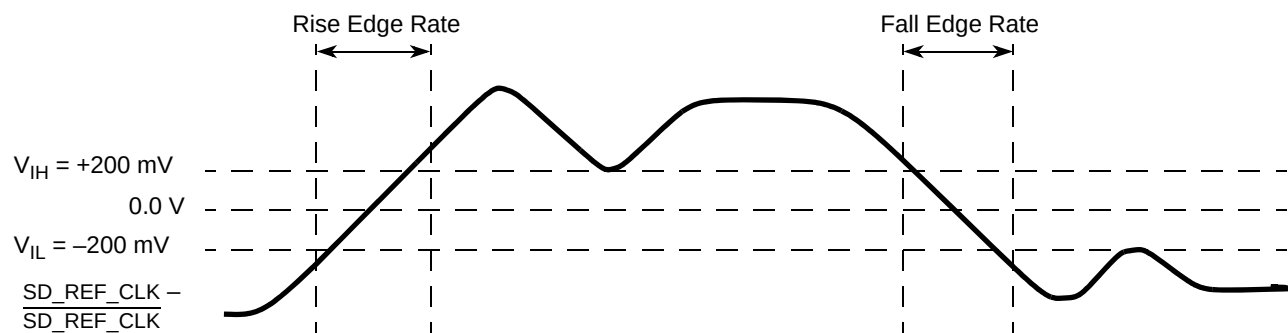

**Figure 52. Differential Measurement Points for Rise and Fall Time**
1. The differential waveform is constructed by subtracting the inverting signal ( $\overline{\text{SDn\_TX}}$ , for example) from the non-inverting signal ( $\text{SDn\_TX}$ , for example) within a differential pair. There is only one signal trace curve in a differential waveform. The voltage represented in the differential waveform is not referenced to ground. Refer to Figure 52 as an example for differential waveform.
3. Measured from -200 mV to +200 mV on the differential waveform (derived from  $\overline{SDn\_REF\_CLK}$  minus  $SDn\_REF\_CLK$ ). The signal must be monotonic through the measurement region for rise and fall time. The 400 mV measurement window is centered on the differential zero crossing. See Figure 52.